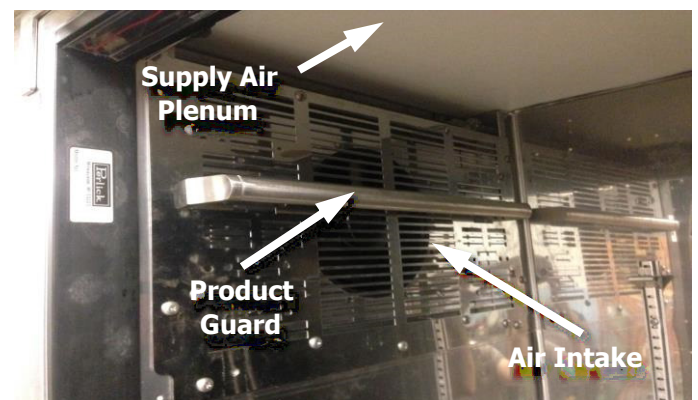

Figure 6-9. Check for Obstructions
- Never place items in the area behind Product Side Guard/Handle. See Figure 6-9.